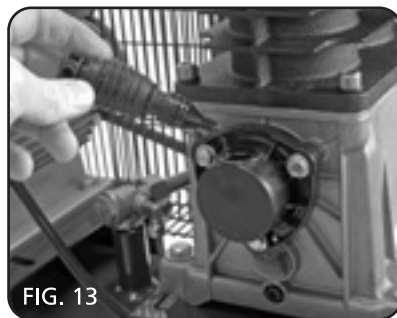
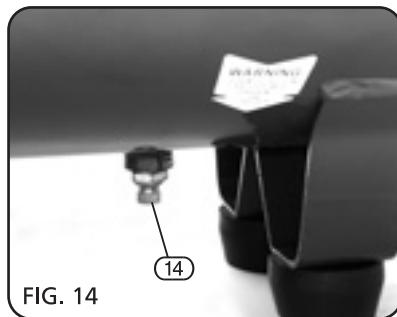

FIG. 13
FIG. 14
## 11.2 WEEKLY OPERATIONS - FIGS. 13 - 14
Check the oil level and if necessary top up (Fig.13). Do not exceed the mark corresponding to the max. level. Make sure the oil does not drop below the minimum so as to avoid any damage or seizure. Drain condensation, while the tank is pressurised, by opening the valve (14) located under the tank (Fig.14). Open the valve by turning it anti-clockwise with a container under the valve. Keep the compressor in a position to allow all condensation to flow out completely. The tank must have pressure inside to force out any water present.